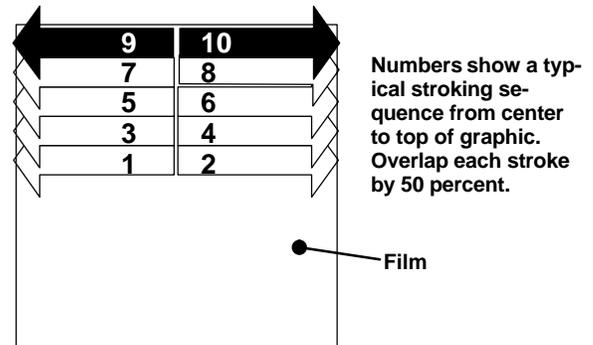

Figure 3. Smoothing a Small Graphic
- To smooth out wrinkles or bubbles on a small section of film, use gentle, overlapping strokes of the plastic applicator and sleeve from the center of the graphic out to the edge. See Figure 3.